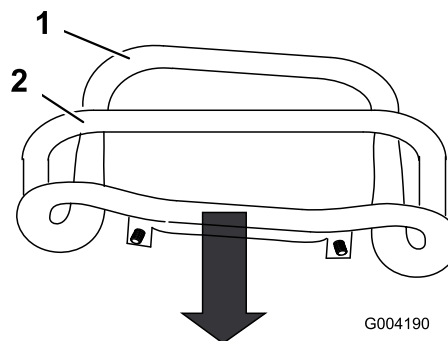

**Figure 53**
3. Pull straight back on the traction control so the front of the control contacts the reference bar (Figure 53).